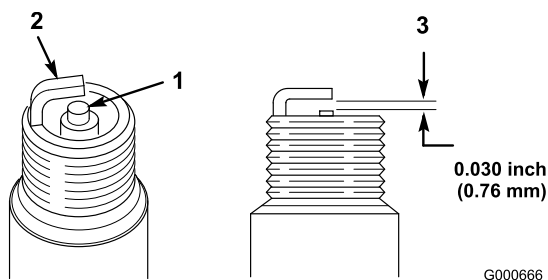

Figure 27
1. Look at the center of the spark plug (Figure 27). If you see light brown or gray on the insulator, the engine is operating properly. A black coating on the insulator usually means that the air cleaner is dirty.
2. Check the gap between the center and side electrodes (Figure 27) and bend the side electrode if the gap is not correct.